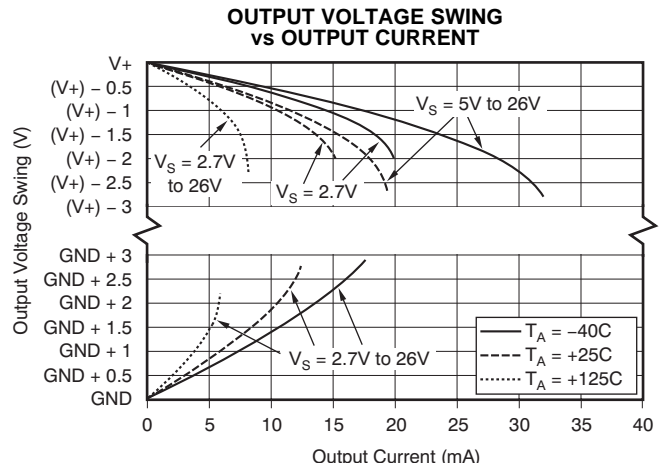

Figure 10.
(1) Specifications for INA211 and INA212 are preview.
(2) RTI = referred-to-input.
(3) See Typical Characteristic curve, Output Voltage Swing vs Output Current (Figure 10).